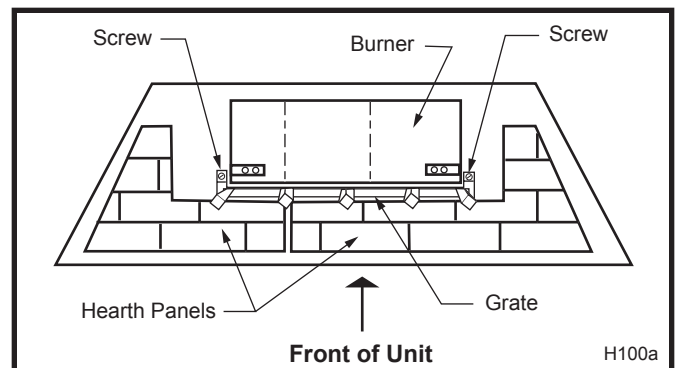

Fig. 30 Hearth panel location.
4. Remove two (2) screws securing grate to hearth pan. (Fig. 30)